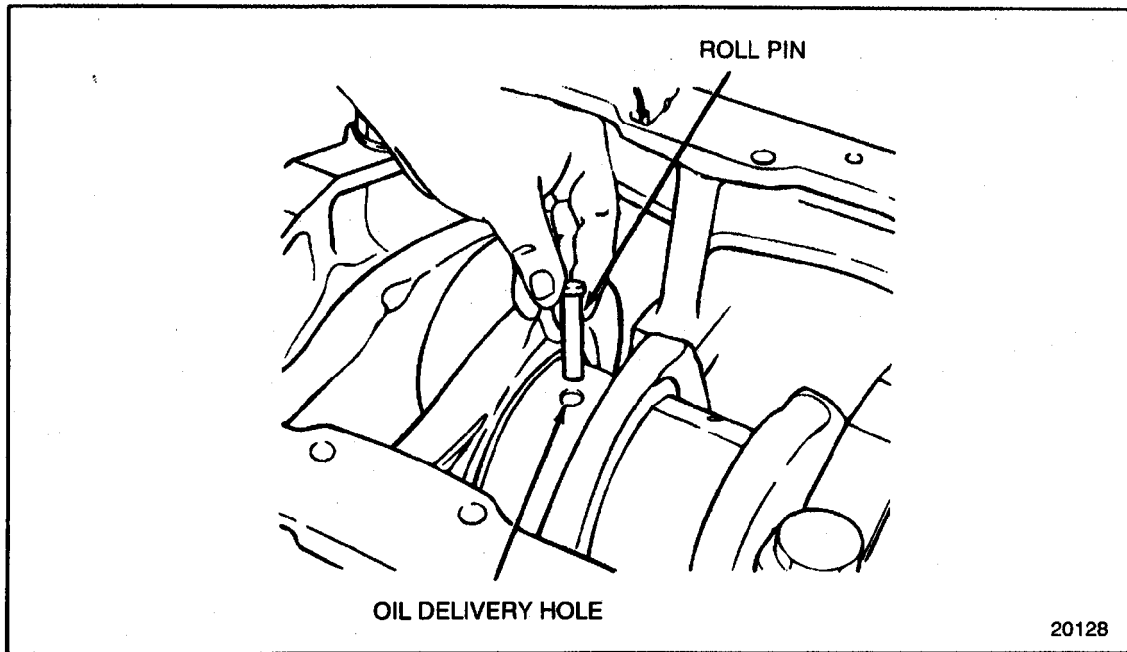

Figure 1-145 Roll Pin Hole Installation
5. To bar the engine over, use the square hole in the middle of the crankshaft pulley, to position the crankshaft throw. Position the crankcase throw for the main bearing being worked on so that the oil delivery hole is pointing upward. See Figure 1-145.
6. Install the roll pin to the oil delivery hole in the crankshaft journal. See Figure 1-145. If this operation is being performed in-frame, use petroleum jelly to retain the roll pin in the hole.